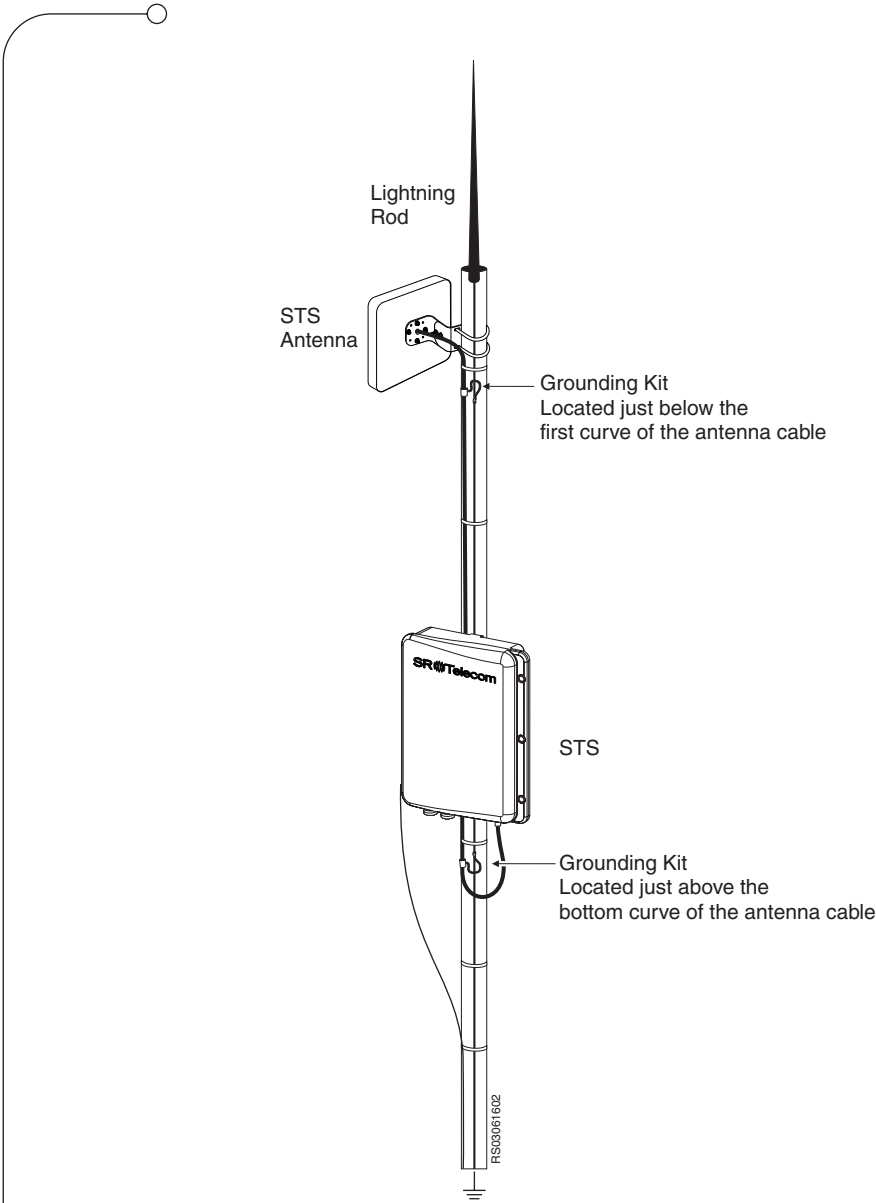

Figure 3.4 Installing the Grounding Kits
1. Install the first ground kit just below the top curve of the antenna cable, as shown in shown in Figure 3.4 on page 29.